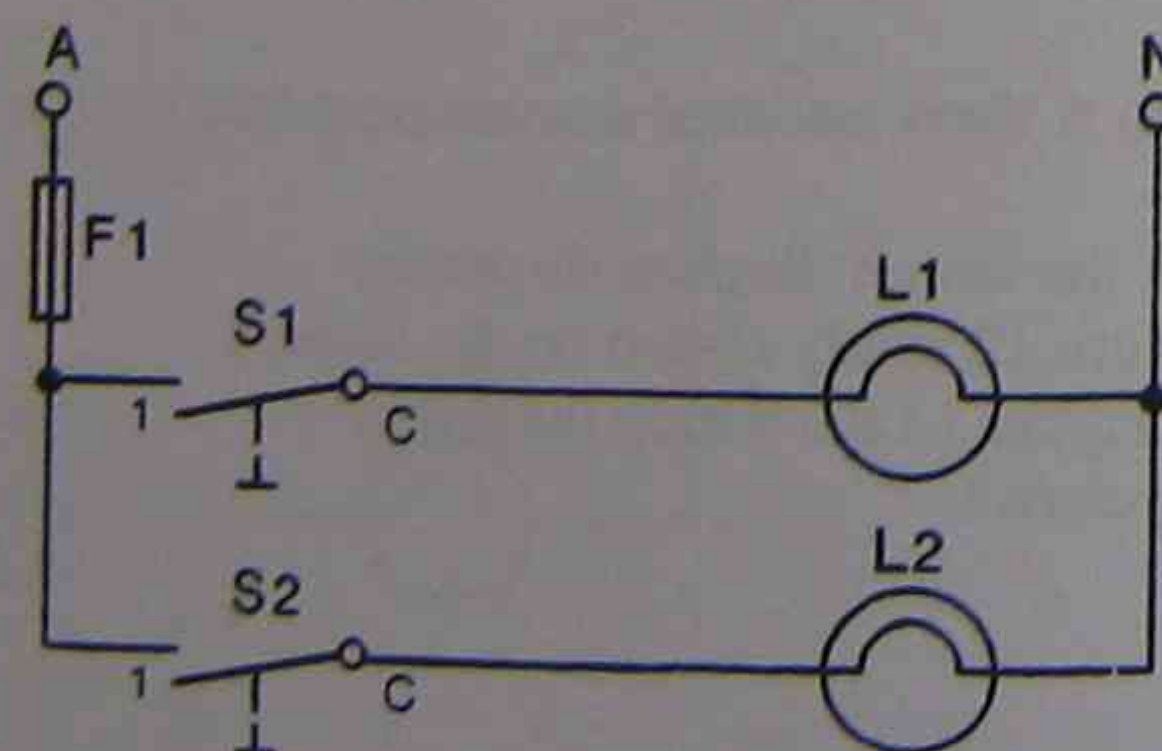

Figure14 Circuit diagram
16. For the circuit diagram shown in Figure 14 neatly sketch on the layout of Figure 15 the wiring diagram for the circuit.